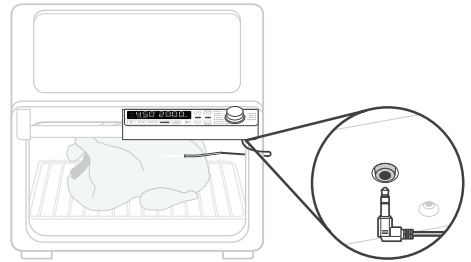

Figure 3.3
2. Place the food into the oven. Plug the thermometer into the thermometer input. [Figure 3.3]